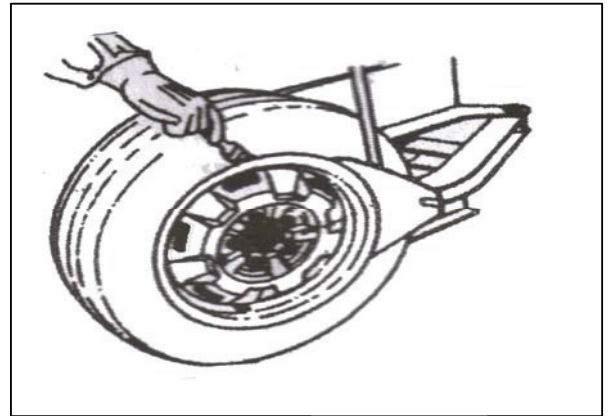

FIG 18
STEP 2: Place the tire between the bead breaking blade and rubber pad on the side of the machine (Fig 18). Then press down the bead breaker pedal to detach the wheel from the tire (Fig 2-10). Repeat the same operation on the other parts of the tire making sure the tire completely detaches from the wheel. Place the wheel with and tire on the turntable and press the clamp pedal (Fig 2-9) to securely clamp the wheel. Based on the specifications of the wheel you are servicing, choose either the outer clamping method or the inner clamping method. To detach the tire easily, you can use the brush to spread lubricant or thick soap liquid between the bead of the tire and wheel.